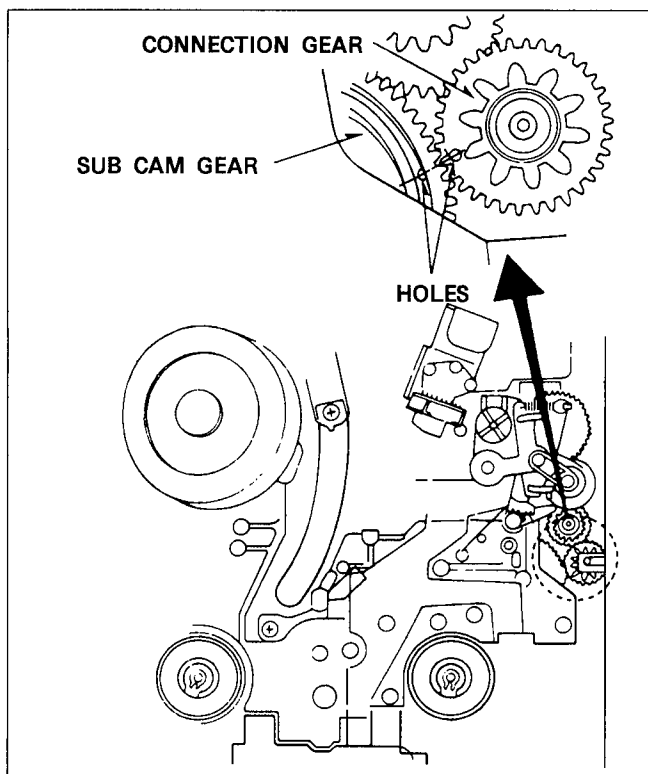
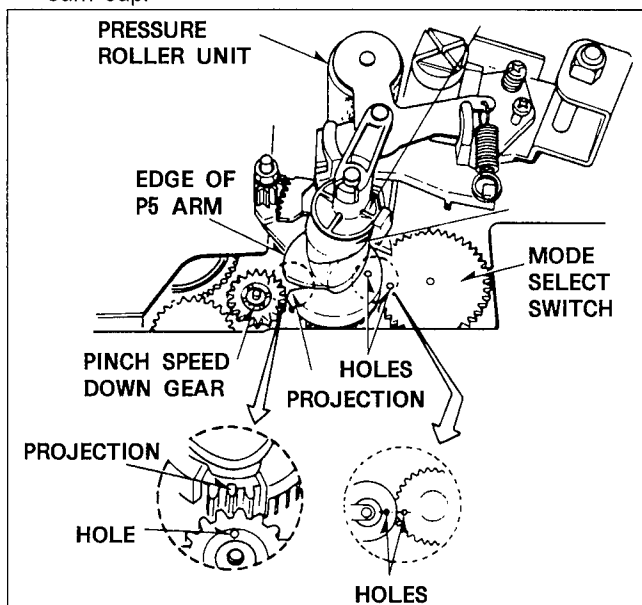

Figure M46
Figure M48
1. Install the Connection Gear so that the small hole on the Connection Gear aligns with the small hole on the Sub Cam Gear as shown in Figure M46.
1. Install the Pinch Cam while pushing the P5 post forward. The gear of the Pinch Cam should drop to a seated position. In this position make sure hole in the Mode Select Switch aligns with small hole on the Pinch Cam, also the small rift on the Pinch Cam should align with the hole on the Pinch Speed Down Gear as shown in Figure M48.
- a) Identification hole on the Mode Select Switch at 6 o'clock position and aligned with small hole on Pinch Cam. (Figure M48)
- b) P5 Arm is completely loading position and the Inclined Base (S) and (T) are completely unloading position.
- c) Small hole on Sub Cam Gear should align with small hole on the Connection Gear (Figure M46) and rectangular mark on the Connection Gear should be at a 3 o'clock position.